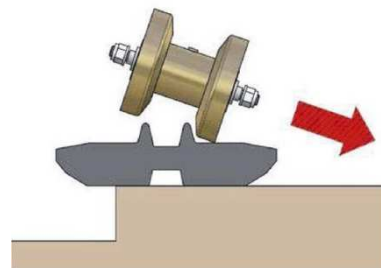

Fig. 7.5-11 - Example of an error in moving the machine (steering) which involves the crawler coming out from its seat
- If steering as in the conditions of Fig. 7.5-11, the crawler comes out of its seat.